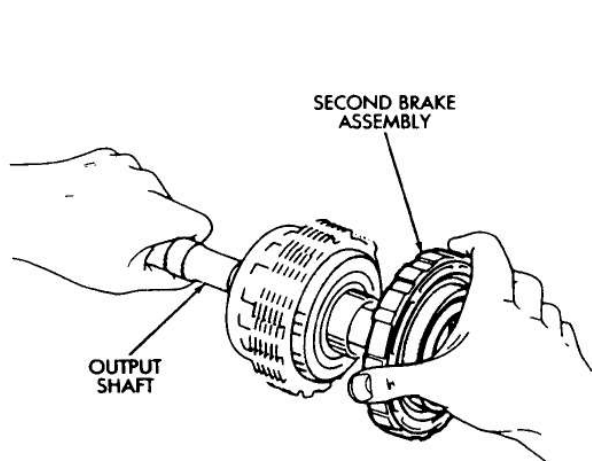

Fig. 2 Removing/Installing Second Brake Assembly ⁶⁹
- (1) Remove second brake drum from output shaft (Fig. 2).
- (2) Set output shaft assembly aside for overhaul. Refer to Rear Planetary Gear and Output Shaft Overhaul procedures.